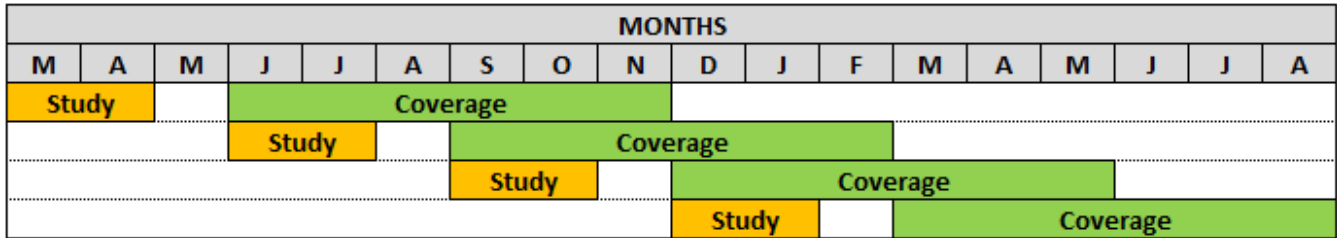

Figure 2: Quarterly AA Process Timeline
This process repeats quarterly with Study and Coverage Periods as identified in Figure 2 below.
- Study Period begins 00:00:00 EST on the first day of the period month and ends at 23:59:59 EST on the last day of Period month as shown in Figure 2.
- Coverage Period begins 00:00:00 EST on the first day of the period month and ends at 23:59:59 EST on the last day of period month as shown in Figure 2.